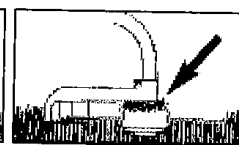

Fig. 6B
**CAUTION:** Regularly remove all grass and weed debris to prevent shaft housing overheating. Turf/grass/weed debris are caught under the shield (Fig. 6B), preventing sufficient shaft housing cooling. Be careful when removing debris, remove the line spool first.